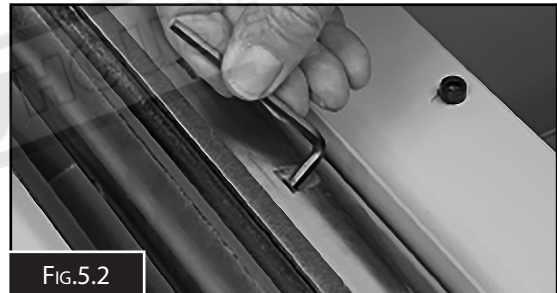

FIG.5.2
3. Turn the cutter block until one of the slots is in the upright position. Using a 4mm Hex key loosen the four cap head screws on the cutter block, removing the clamping effect. This should allow the blade to 'spring' up, protruding clear of the edge of the cutter block. (Fig.5.2)